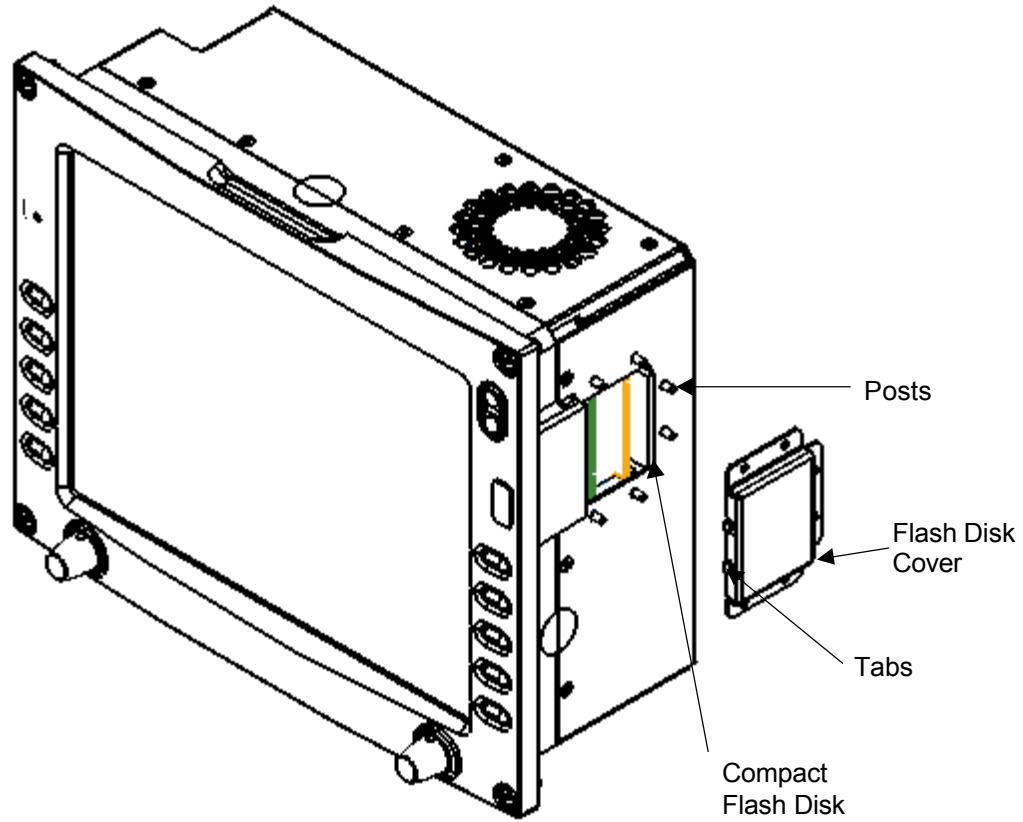

Figure 1: MFD with Compact Flash Cover Removed
This procedure should be performed on the bench. Ensure NO power is applied to the unit. Refer to Figure 1.
2. Remove the compact flash (See Effectivity/Compatibility) by pulling it from the connector and sliding it out (as shown in Figure 1).